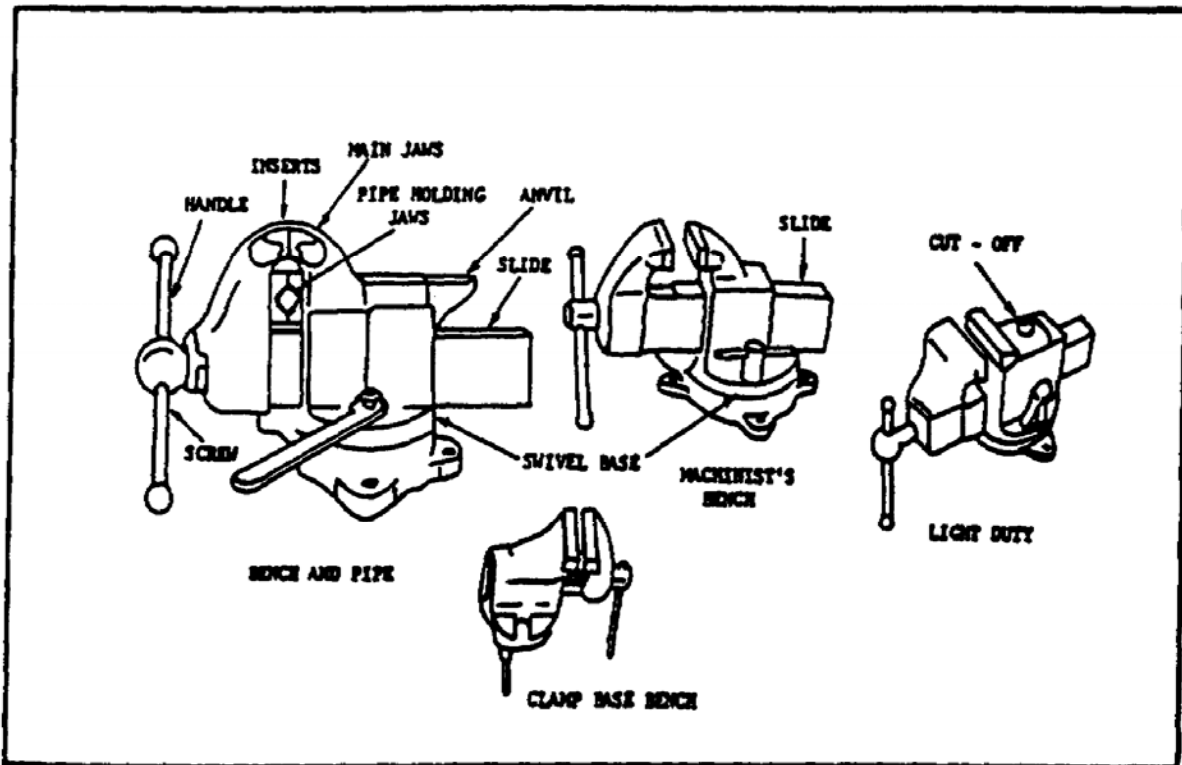

FIGURE 40. TYPE OF VISES.
(1) *Machinist's Bench Vise.* A machinist's bench vise (figure 40) is a large steel vise with rough jaws that prevent the work from slipping. Most of these vises have a swivel base with jaws that can be rotated, while others cannot be rotated. A similar light duty model is equipped with a cutoff. These vises are usually bolt-mounted onto a bench.
(2) *Bench and Pipe Vise*. The bench and pipe vise (figure 40) has integral pipe jaws for holding pipe from 3/4 inch to 3 inches in diameter. The maximum working main jaw opening is usually 5 inches, having a jaw width of 4 to 5 inches. The base can be swiveled to any position and locked. These vises are equipped with an anvil and are also bolted onto a workbench.
(3) *Clamp Base Bench Vises*. The clamp base bench vise (figure 40) usually has a smaller holding capacity than the machinist's or bench and pipe vises and is clamped to the edge of a bench. Holding capacity is generally 1 1/2 to 3 inches. These vises normally do not have pipe holding jaws.